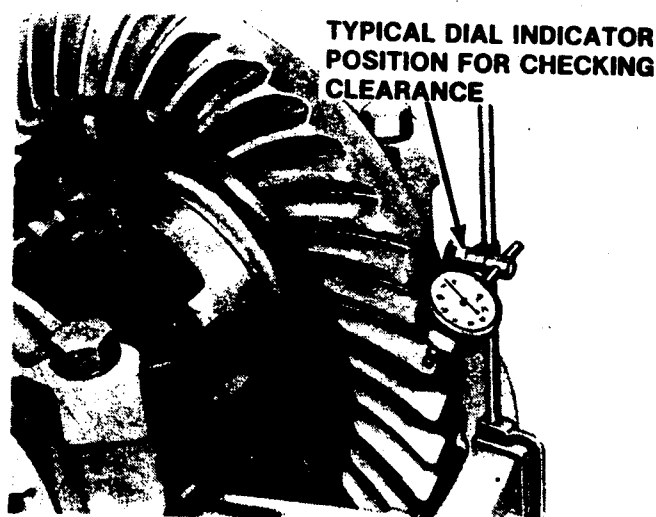

Figure 2. Checking Clearance
NOTE: If inspection indicates that the bevel pinion (24) is not to be replaced, measure the bevel gear clearance and make a record of the clearance. See Figure 2.